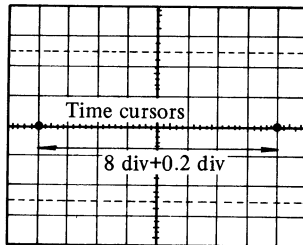

Fig. 6-6 Time cursor accuracy
- (1) Select 1 ms/div by TIME/DIV.
- (2) Set the TIME and CURSOR buttons. Then adjust INTENSITY so that the intensity modulated cursor dots are distinct from trace.
- (3) Set A DOT select switch at the A DOT position and operate DEC/INC control switches to locate the cursor dot A to the second vertical graticule line from the left.
- (4) Operate A DOT/B DOT select switch and DEC/INC control switches to remove the cursor dot B.
- (5) Obtain 8.0 and ms indication on DATA and UNIT indicators.
- (6) Check for a display of two dots separated horizontally by 8 divisions \pm 0.2 division. (See Fig. 6-6).